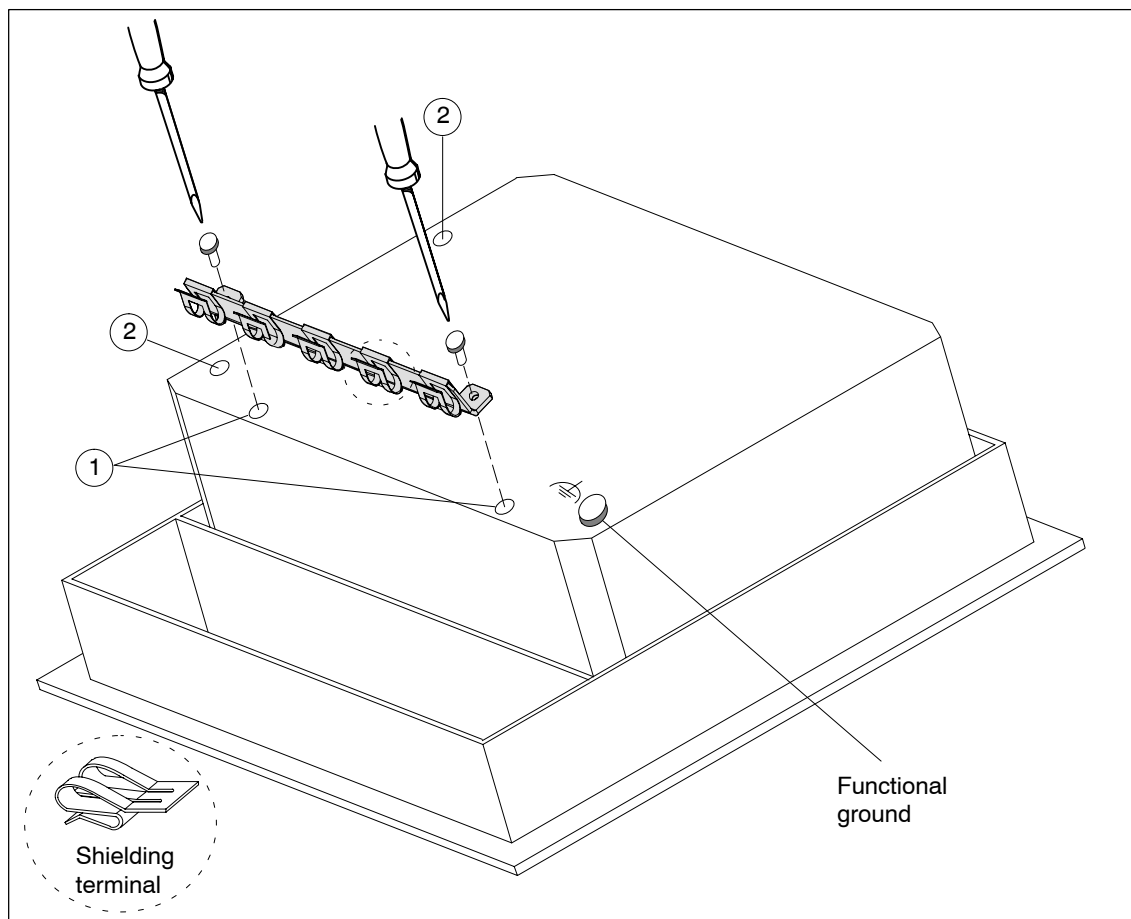

Figure 3-17 C7-635 with grounding busbar, shielding terminals, and terminal for functional ground
Connect the functional ground  (see Figure 3-17) to the cabinet ground with a cable lug and a cable with a minimum cross section of 4 mm².
1. Mount the grounding busbar at the position shown in Fig. 3-17, using the included screws (1) or, as an alternative, at this position (2).
2. Install the shielding terminals on the grounding busbar as shown in Fig. 3-17.